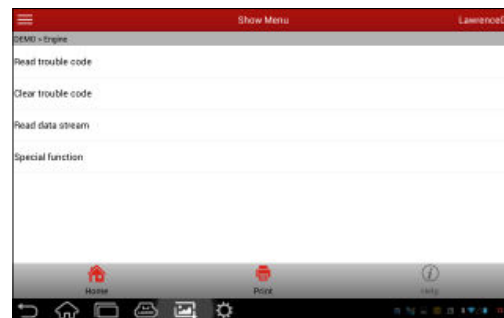

Fig. 5-16
5. Tap "Engine", the system will jump to the function menu. See Fig. 5-16.